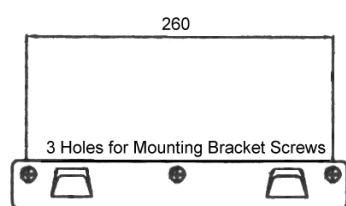

Figure 1a
3. Measure and mark the position on the wall for the rangehood main unit (see figure 1a, & 1b) mounting bracket to be fixed. A suitable method is to measure the distance from the base of the rangehood to the hanging slots as shown in Figure (2a) below.